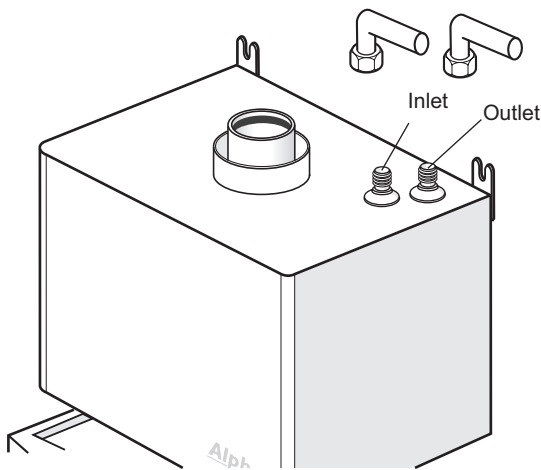

Fig. 8
Position the GasSaver on its mounting bracket, holding it level (ensure the weight is not transferred to the boiler). Locate the top fixing bolts into the top of the GasSaver as shown in Fig. 8 and adjust the nuts to level the GasSaver.
1. Fit the ½" BSP to 15 mm tails (supplied) to the inlet and outlet connections setting them in the required positions. Using either solder or compression fittings connect the cold mains inlet to the inlet pipe (marked inlet, see Fig. 8). Route the pipework from the outlet to the cold inlet of the boiler.